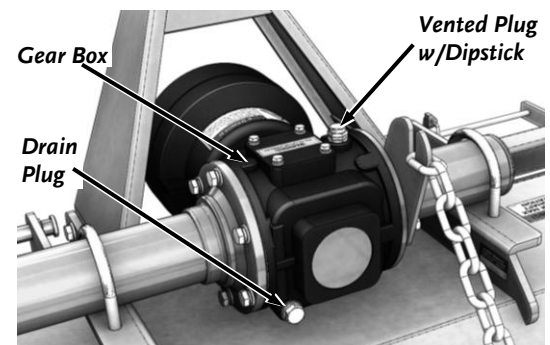

Figure 27
1. Remove the Vented Plug w/Dipstick from the top of the Gearbox using a 19mm Wrench and position a suitable oil drain container under the Drain Plug at the rear of the Gearbox (**Figure 27**).